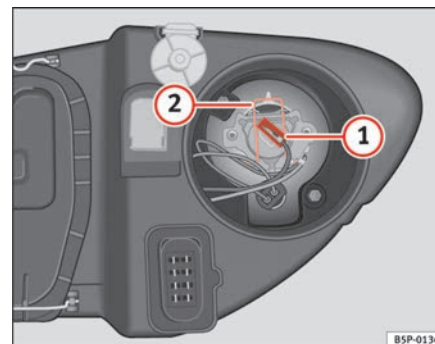

Fig. 190 Main beam headlights
- Remove the connector ⇒ fig. 190 ① from the bulb.
- Press the spring ⇒ fig. 190 ② inwards and to the right.